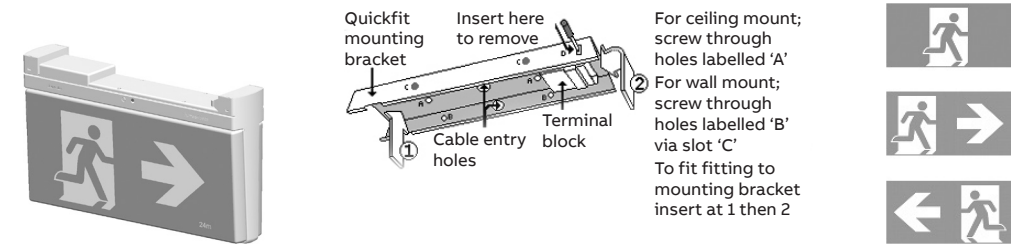

Figure 2: Quickfit insertion diagram and internal view
1. Take the mounting bracket and whilst holding it into place against the ceiling or wall, use a pencil to mark the position of the screw holes (at A or B in figure 2) and cable entry position through the bracket onto the ceiling or wall as appropriate. Make sure to allow at least 50mm of free space to the right hand side of the final location of the fitting to allow for the sliding function of attaching the fitting to the mounting bracket. If need be, turn the bracket around and swap the diffuser with the back plate to permit room for inserting and removing the fitting from the mounting bracket. Orient the bracket in such a way as to make the LED and push button readily visible and accessible when the fitting is installed.
5. Attach the fitting to the mounting bracket by aligning the top left hand end of the fitting (the end without the protruding electrical connecting metal lugs) with the large cut-away slot towards the left hand end of the bracket. Slip the left hand end of the fitting up into the slot in the left hand end of the bracket (step 1 in figure 2) and hold the fitting horizontal to and parallel with the bracket. It should be approximately 50mm to the right of its final destination. Simply slide the fitting (step 2 in figure 2) 50mm to the left along and into the bracket to engage the connections and the locking tab. Once in place, the fitting cannot be removed from the bracket without the use of a tool (a small screwdriver) to push in the locking tab at 'D' in figure 2. Ensure the correct pictograph inserts have been attached to the diffuser assembly.
1. Gently insert a small screwdriver into the slot (at 'D' in figure 2) on the front of the bracket towards the right hand end of the fitting, to ease the locking tab into the fitting and away from the bracket.